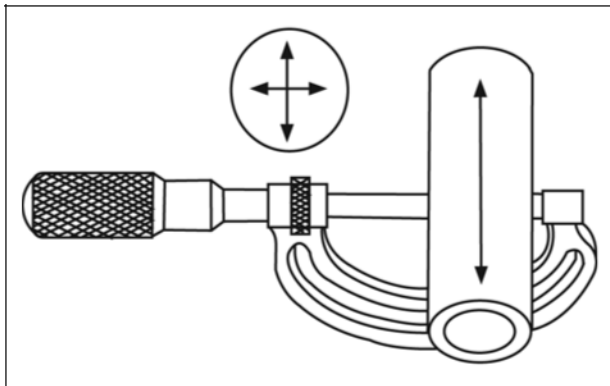

Figure 6
1. Check piston pin (Figure 6).